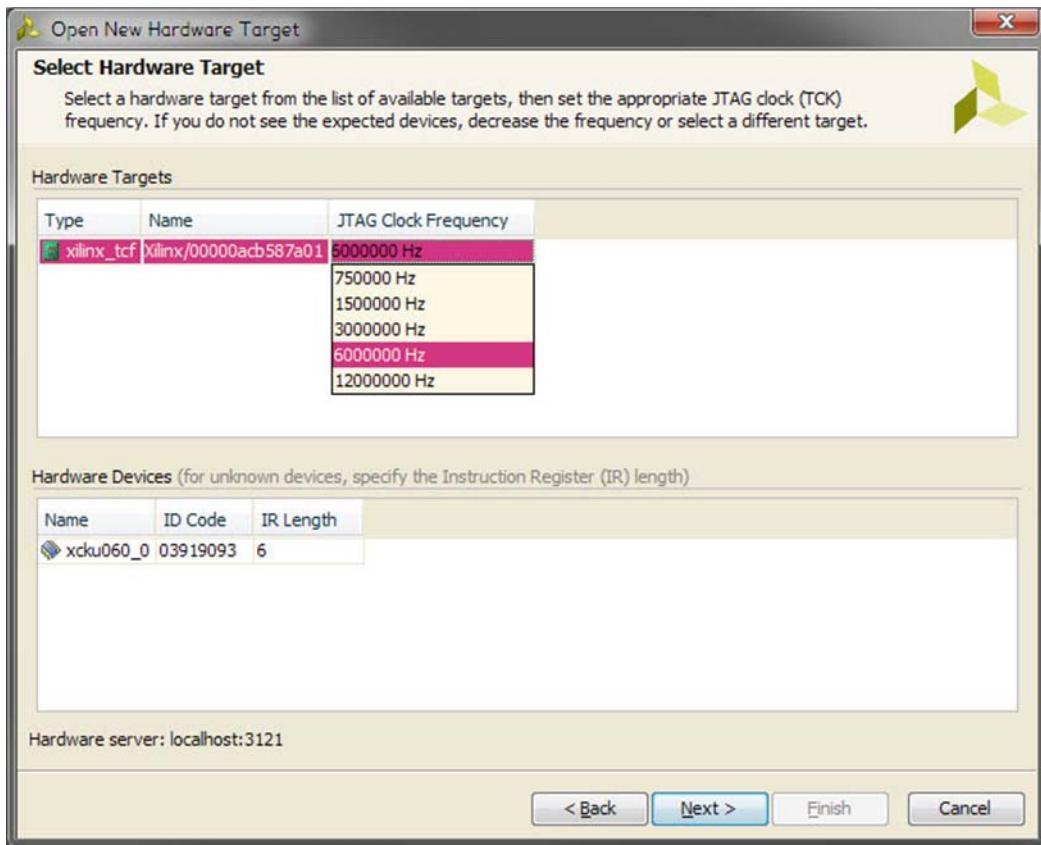

Figure 4-5: Selecting a Hardware Target
2. Select the appropriate hardware target from the list of targets that are managed by the hardware server. Note that when you select a target, you see the various hardware devices that are available on that hardware target (see Figure 4-5).
- If you are not able to correctly identify the hardware devices on your target, it might mean that your hardware is not capable of running at the default target frequency. You can adjust the frequency of the TCK pin of the hardware target or cable (see Figure 4-5). Note that each type of hardware target may have different properties. Refer to the documentation of each hardware target for more information about these properties.
- While the Vivado hardware server will attempt to automatically determine the instruction register (IR) length of all devices in the JTAG chain, in some rare
circumstances it might not be able to correctly do so. You should check the IR length for each unknown device to make sure it is correct. If you need to specify the IR length, you can do so directly in the **Hardware Devices** table of the **Open New Hardware Target** wizard (see Figure 4-5).